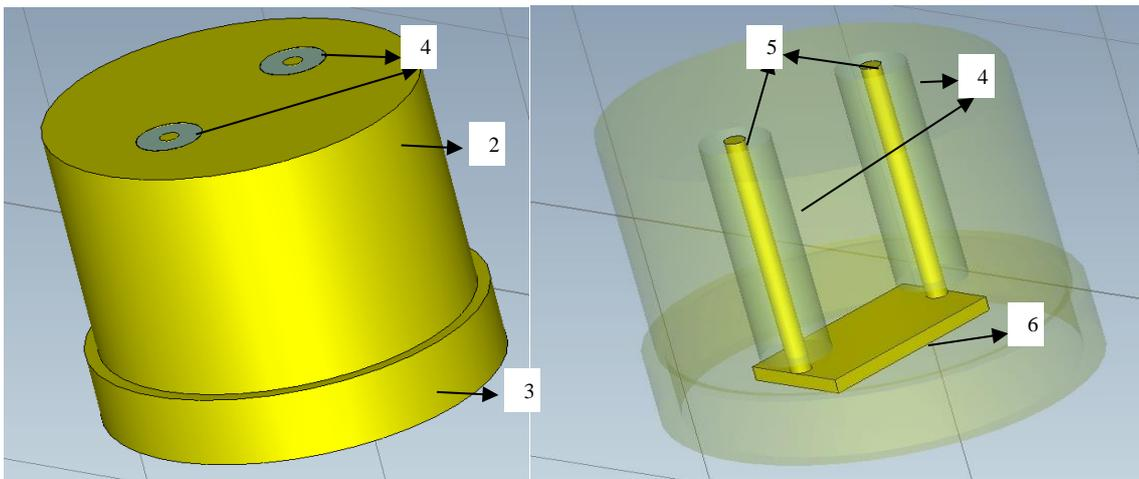

Fig 5
- Two loop couplers with details given in Fig 5 are to be mounted over the two holes on the waveguide. These two couplers are also made of aluminium
- Inside view of coupler is given in Fig5